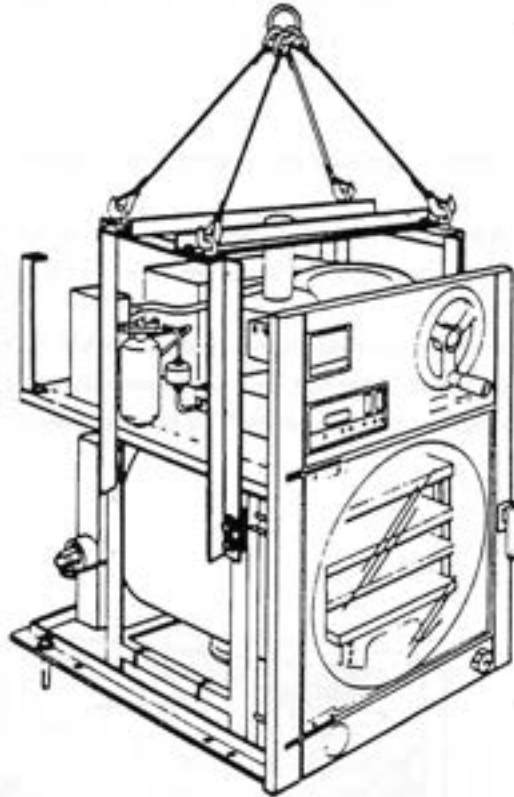

Fig.11 Lifting sling attached
2. Attach lifting slings, rated at a maximum load greater than 200 kg., to all four eye-bolts. (See Fig. 11)